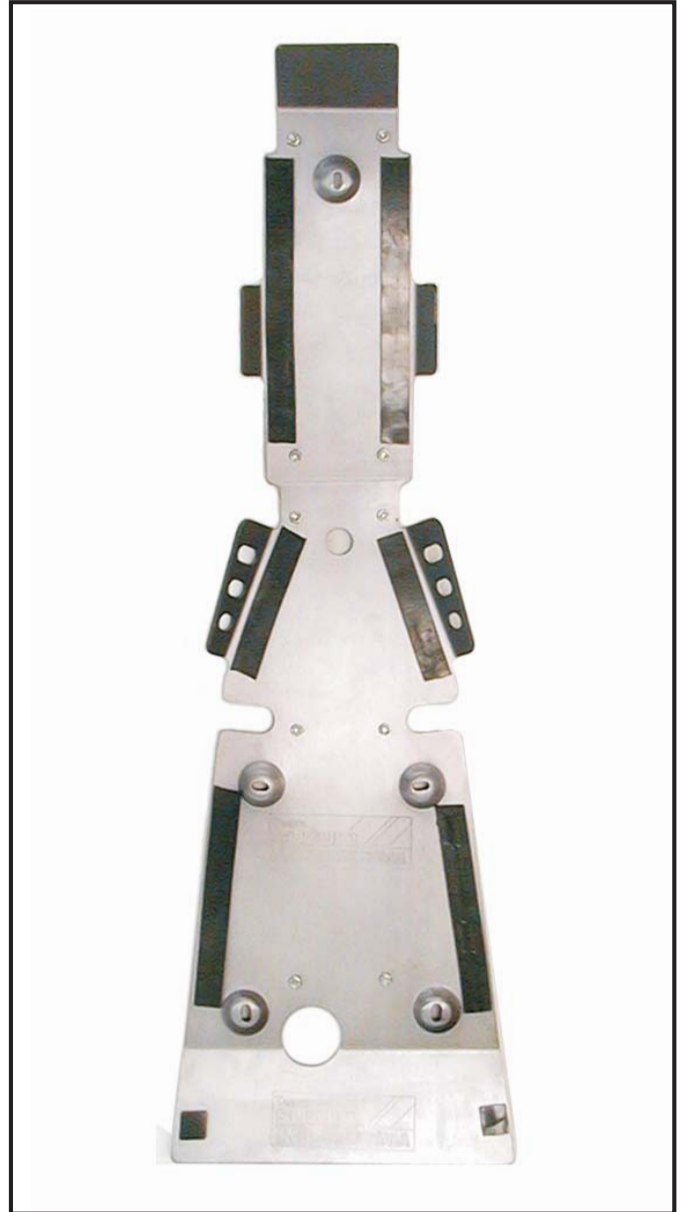

Fig. 1
3. Remove adhesive backing from rubber cushion pieces and install on skid plate at positions previously marked with pencil. (See Fig. 1 as an example).